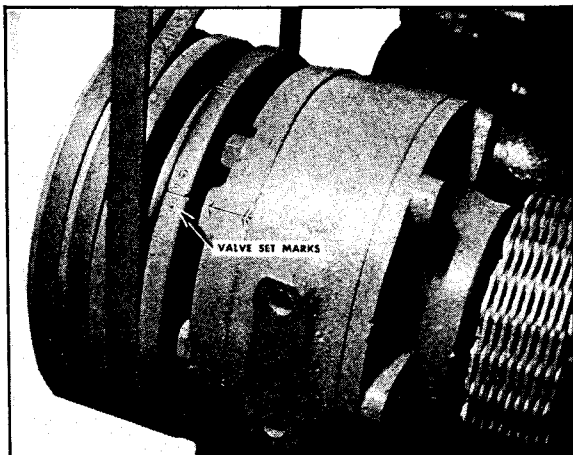

Fig. 12-92. Valve set marks
3. Continue to rotate the crankshaft in its operating direction one-quarter turn and the "1-6VS" mark on the fan drive pulley will line up with the timing mark on the gear case cover. The engine is now in position to adjust the injector plunger and valves for No. 1 cylinder. Fig. 12-92.